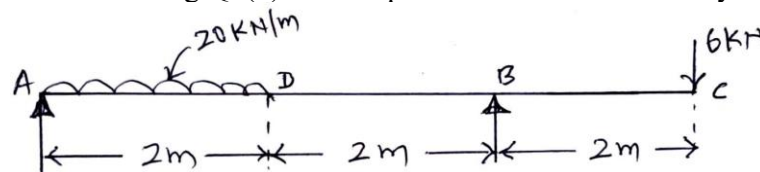

Fig.Q6(b)
- b. Draw the shearforce and bending moment diagram indicating principal values for an overhanging beam shown in Fig.Q6(b). Locate point of contraflexure if any.